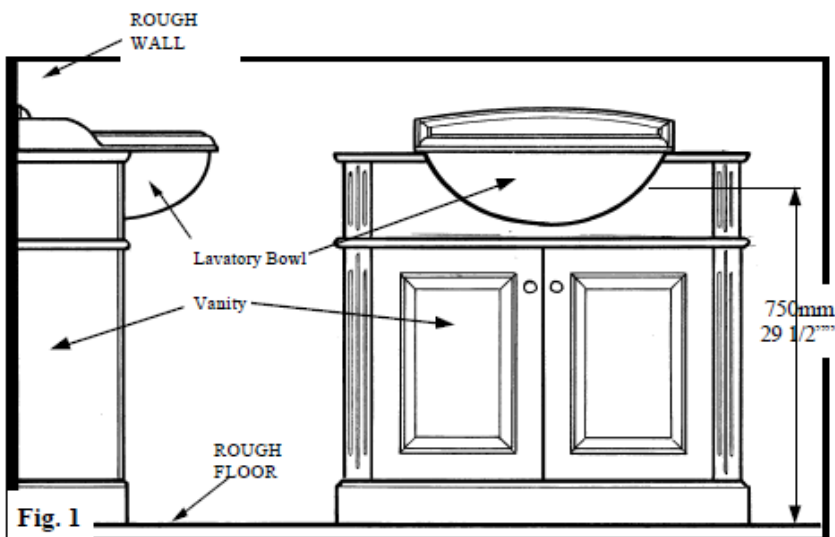

Fig. 1
1. Position the basin onto the vanity unit and in turn position the assembly in the required position against the wall. Fig 1. (OVER THE PAGE).